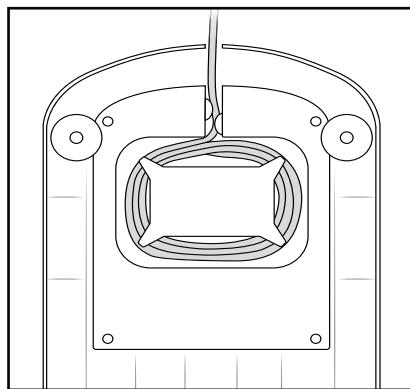

Fig. 6
- Wrap the power cable around the cable spool 18 to store it (fig. 6).